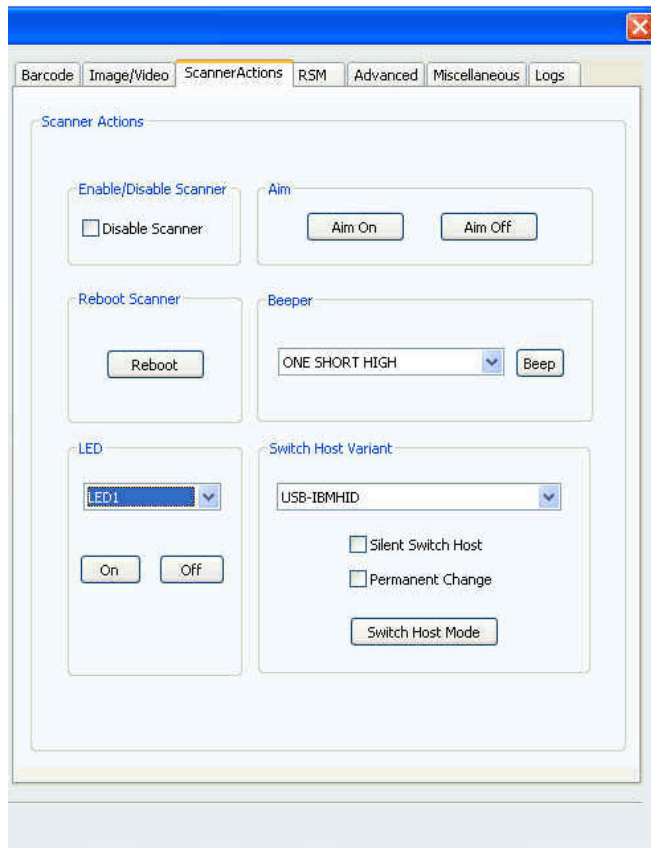

Figure 4-9 LED Selection
3. Select the desired LED from the list, defined on the *Scanner Actions* tab (see Figure 4-9 on page 4-14).
✓ **NOTE** The `<scannerID>` tag in the XML is filled with the scanner's ID selected in the *Connected Scanners* list of the sample application. The `<arg-int>` tag in the XML is filled with the LED number selected in the *LED* drop-down list shown in Figure 4-9. Refer to the scanner's Product Reference Guide for its supported LED values.